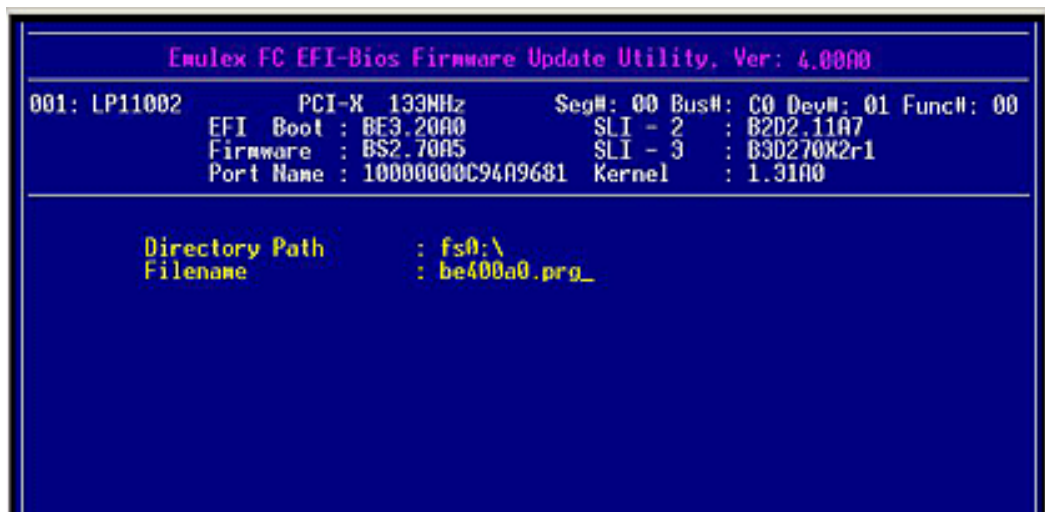

Figure 6-40 Directory Path and Filename Information
- Enter the directory path and filename in the screen that is displayed (Figure 6-40). Press **<Enter>**.